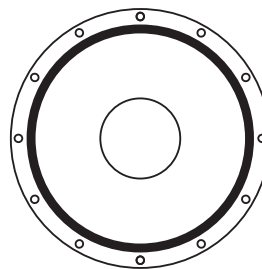

FIG. 2a
- Apply to the top flange of the Cone (D) inside the bolt holes [FIG. 2a].